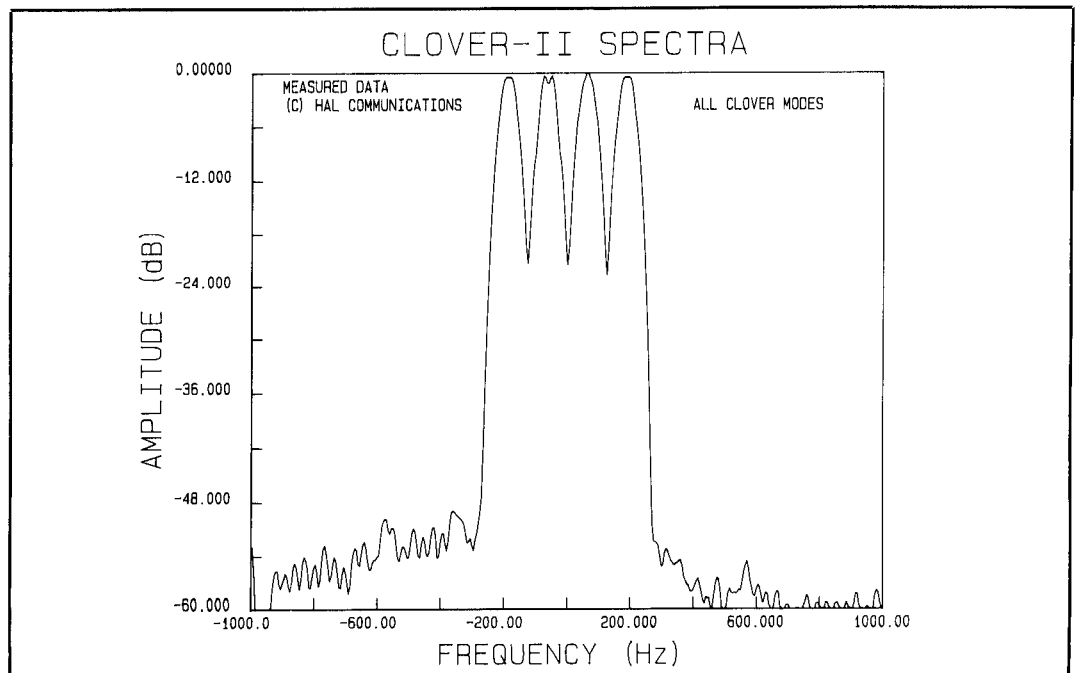

Figure 4. CLOVER-II spectra.
able in most modern HF transceivers. The CLOVER-II frequency spectra is shown in **Figure 4**.*
*The spectra shown in **Figure 4** is a plot of measured data taken from the audio output of a HAL “CLOVER-II” Modem, a developmental model. The ensemble output was centered at 1000 Hz with individual tone center frequencies of 812.5, 937.5, 1062.5, and 1187.5 Hz. The data has been numerically shifted to show 0 Hz as the center frequency and 0 dB as the maximum peak amplitude. The measurement device was a Hewlett-Packard Model HP-3561A Dynamic Signal Analyzer.